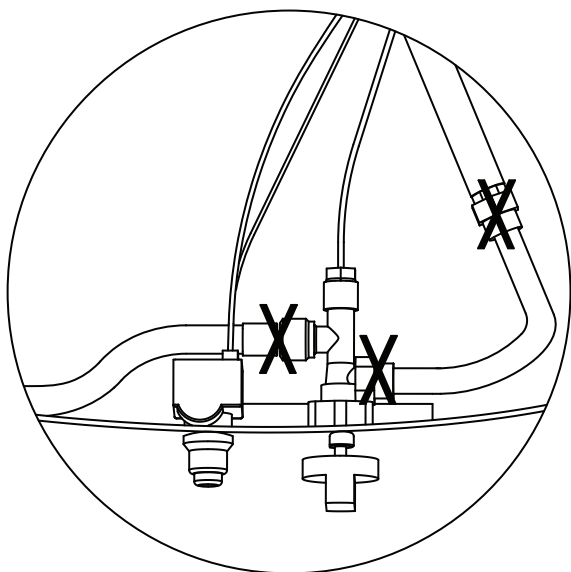

Figure 1
- ❑ Please refer to diagram for proper installation Figures 1 and 2.
- Spoon several drops of solution, or use a squirt bottle, at all “X” loctions (figure 1 and 2 on the previous page).